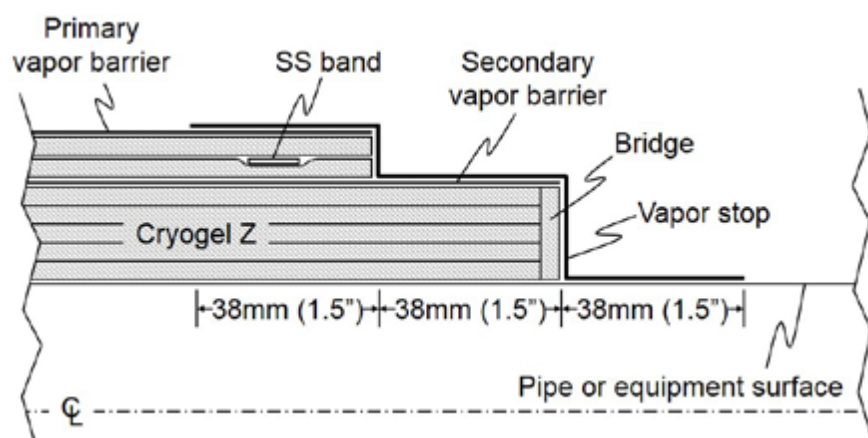

Figure 3: Typical vapor stop detail on a 7-layer termination, showing the tie-ins with both the primary and secondary vapor barriers.
- Tie the vapor stop into both the secondary (where required) and primary vapor barriers with a minimum lap of 38 mm (1.5 in), as illustrated in Figure 3.
- When vapor-stopping over the cut ends of the Cryogel® Z, it may be necessary to smooth over the ragged surface with a "bridge" layer of tape or Cryogel® Z (see example in Figure 3).